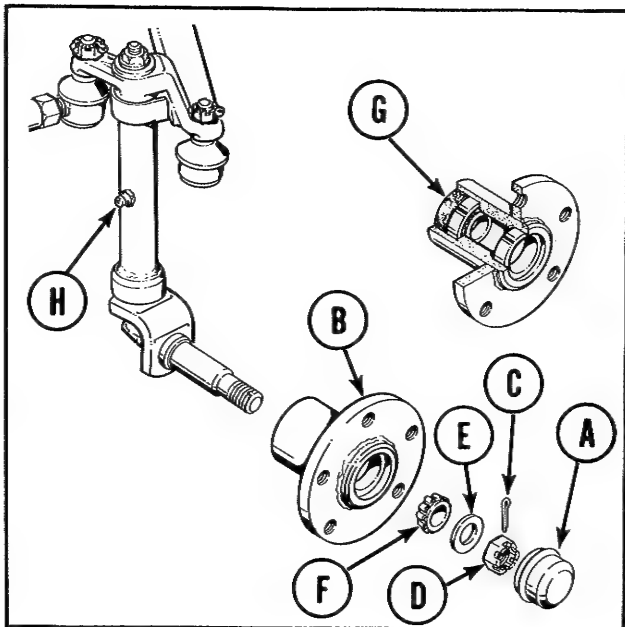

Figure 37. Right front spindle and axle assembly.
1. See figure 37. Block up the front axle of the tractor so the wheel you are to work on is not supporting the tractor.
2. Use a pliers or claw hammer to remove the dust cover (A) from the wheel hub (B). The dust cover will be easier to get off if the wheel is removed.
3. Remove the cotter pin (C).
4. Use a 1-1/8 inch wrench to remove the nut (D) by turning it counter-clockwise.
5. Remove the washer (E) and outer bearing (F) and pull the hub off the axle.
6. Use a large drift punch to push the seal (G) out of the hub. You should keep the two bearings separate so you can put them back in their original place.